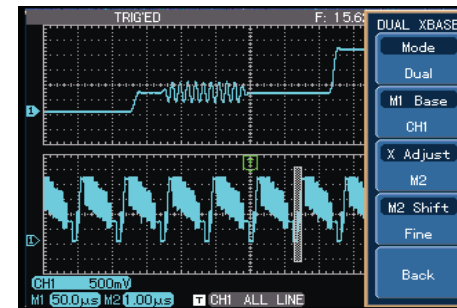

Figure 3-13 Dual time base function
4. Press [F1] to select dual time base, then press [F2] to select CH1. Press [F3] to set time base gratitude to M1. Adjust the M1 time base range with the **SEC/DIV** knob as shown in Figure 3-13. Then press [F3] to select M2 and adjust the M2 time base range with the **SEC/DIV** knob as shown in Figure 3-13.